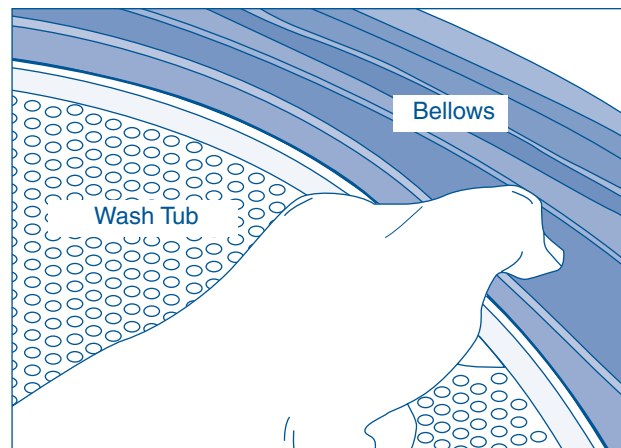

Figure 4-18.
4. Using your thumb, start on the other side of the top tab and force the bellows on in the other direction. Again about one third of the way around stop and seat the bellows onto the tub lip. Force the remaining bellows on with your thumb and seat it. (See Figure 4-18)